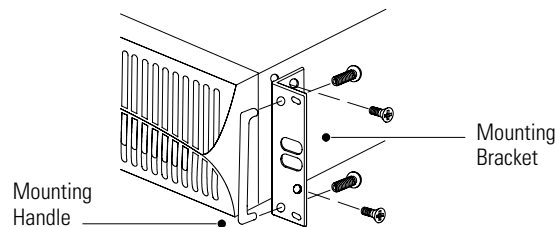

Figure 4. Installing the Mounting Brackets
2. Attach the supplied mounting handles to the mounting brackets and secure with the supplied screws (see Figure 4).
3. Align the mounting brackets with the screw holes on the side of the UPS and secure with the supplied screws (see Figure 4).